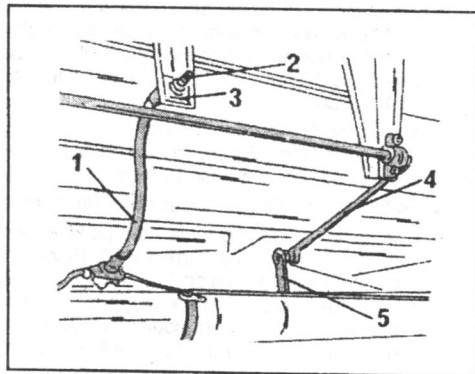

Fig. 7.7. — The items shown must be disconnected during removal of the rear axle.
- Follow the routing of the brake pipe and separate the connection between brake line and brake hose. First unscrew the union nut and pull out the pipe end. Immediately protect the open end in suitable manner (sticky tape). Knock out the spring plate and remove the hose fitting out of the metal bracket. Again protect the open hose end by closing it off. Fig. 7.7 shows the fitted hose.
- Also referring to Fig. 7.7 disconnect the operating linkage for the brake pressure regulator (4) from the lever (5) at the position shown.